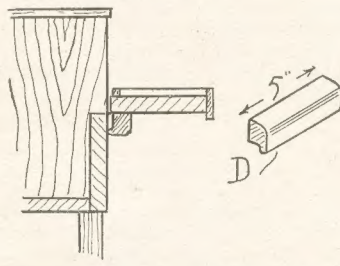

Fig. 2—Section showing drop front and handle
The fall-front is now provided with side and back strips of wood,  $\frac{1}{4}$  in. square section, to join up with the edge fillet already there, and make a shallow tray, as in Fig. 2. A pair of handles, as at (D) are shaped up from a strip of wood  $\frac{3}{4}$  in. wide and 1 in. deep. These are rebated underneath  $\frac{1}{4}$  in. deep, as shown, and one is to be fixed to the flap to act as a support when the flap is open, as in the diagram.